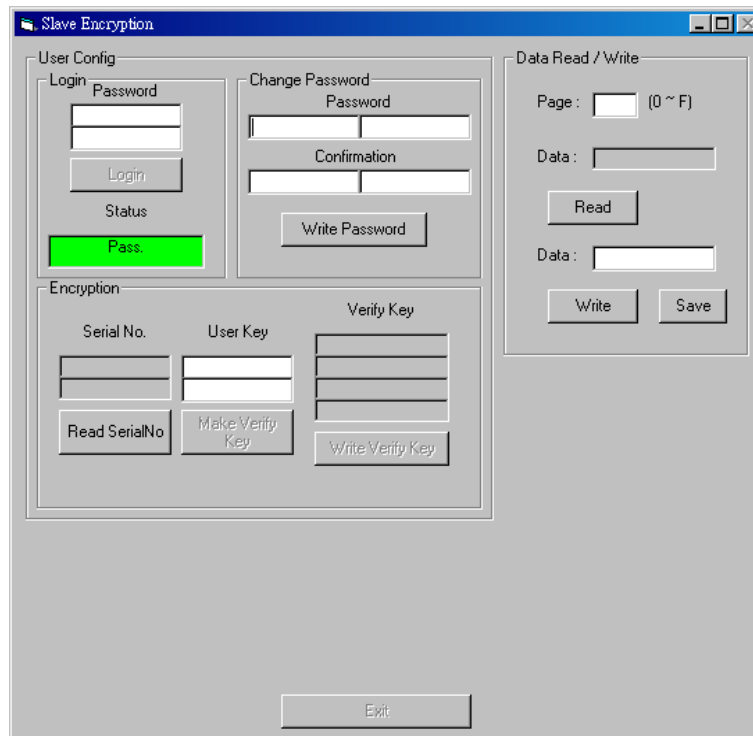

Figure 2.19 RM04PI Slave Encryption User Post-Login Interface
(If login is successful, status will display "Pass" and grant access to the functions in Figure 2.19 Blocks ④, ⑤; If login fails then "Error!" is displayed. User must attempt to login again)
- ② Data Read: Select Page then click on "Read" to read data.
- ③ Verify key confirmation field and status display. Enter the 4 sets of Verify Key in Figure 2.19 block ⑤ into the 4 fields of Check Verify Key then click on "Check Verify Key". (If verification is successful then "Pass" is displayed on the status bar below. "Lock!" is displayed otherwise.)